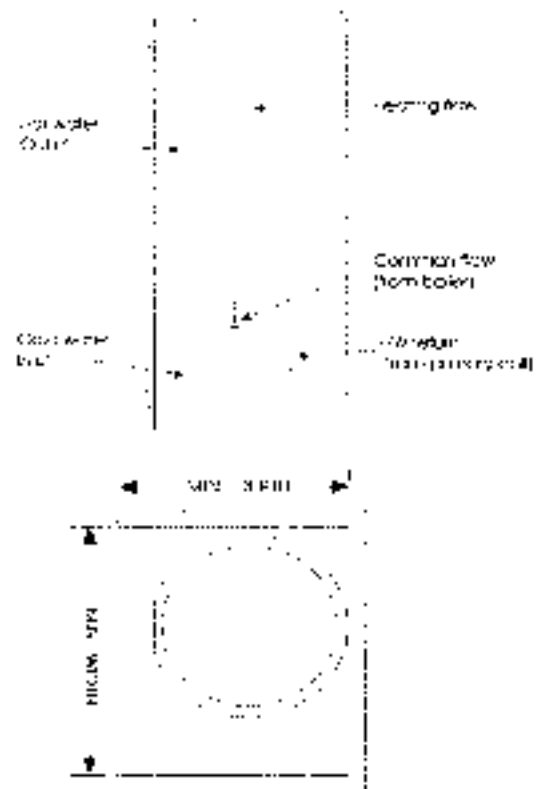

Figure 3.1 Systemate III Connection arrangement (For minimum cupboard dimensions see Table 1.1)
- Make all water connections in accordance with the labelling on the thermal store and the associated pipework as shown in Figure 3.1.